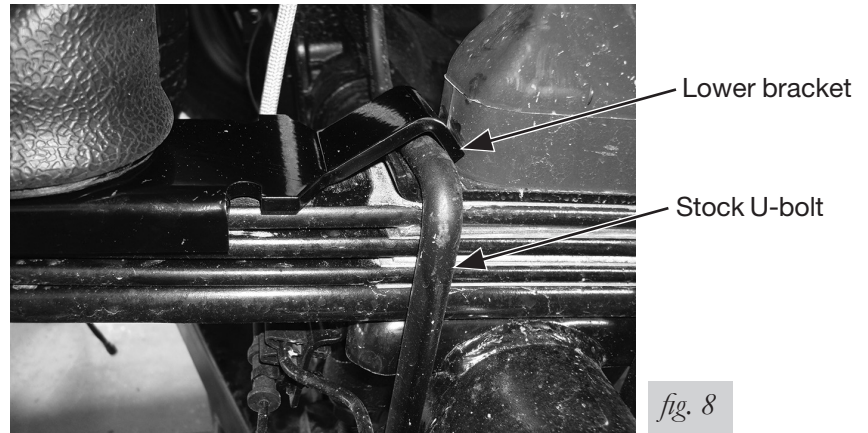

fig. 8
2. Set the left- and right-hand assemblies on the leaf spring **behind** the axle so that the “finger” of the lower bracket is over the stock U-bolt (fig. 8).